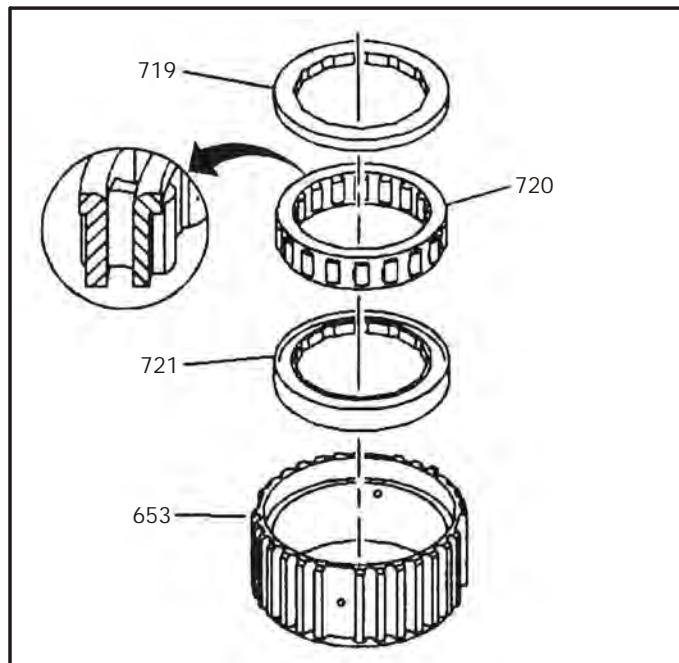

Figure 98
6. Place the 3rd clutch sprag outer race on a flat work surface with the machined step facing up, as shown in Figure 98.
7. Insert the center bearing (721) for the input and 3rd clutch into the 3rd clutch sprag outer race, as shown in Figure 98.
8. Insert the 3rd clutch sprag assembly (720) into the outer race, as shown in Figure 98.
**Note:** Position the 3rd sprag so that the lip is facing **up**, as shown in Figure 98.